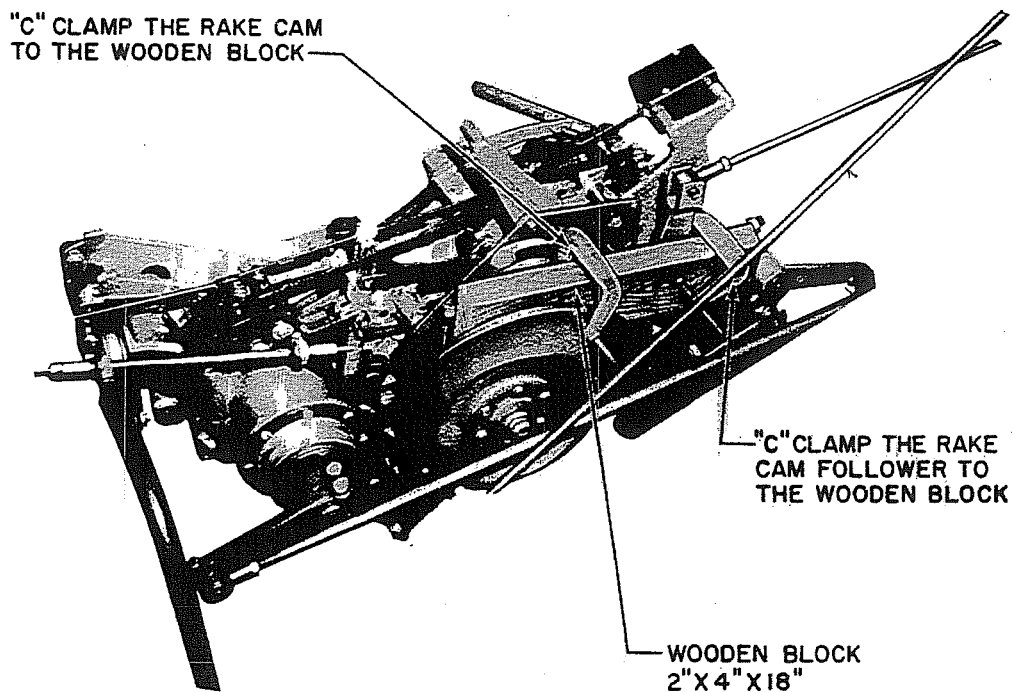

Figure 7. Rake Cams, Locked in Place with C-clamps
14. Place a 2 x 4-inch block of wood between the two rake cams and firmly C-clamp the block to the outer rake cam. Then C-clamp the block to the rake cam follower (figure 7). Clamping is required to prevent the 1 to 1 and 2 to 1 Shafts from rotating after the 4 to 1 Shaft Assembly has been removed from the Gear Box.